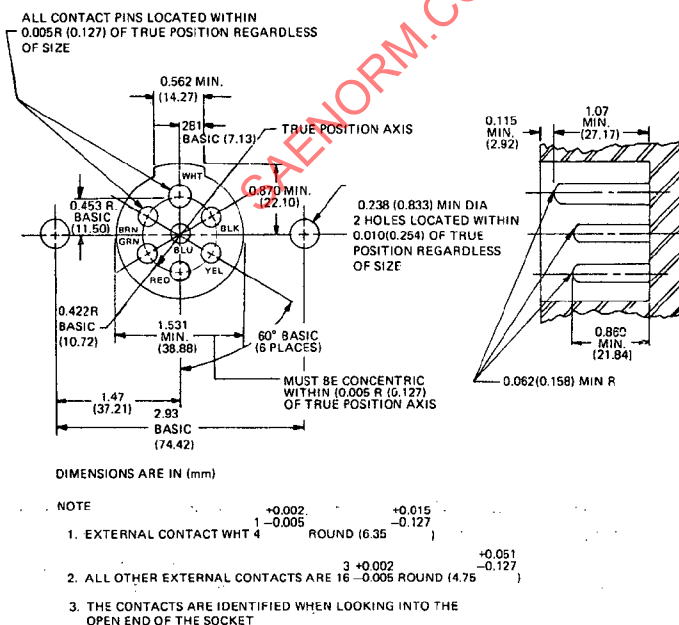

FIG. 2—RECEPTACLE SOCKET
3. Wiring Circuits—The function and color code of each circuit is shown in Table 1. The location of each circuit is shown in Figs. 2 and 3.
5. Receptacle Requirements—Fig. 2 shows receptacle socket dimensions and minimum design requirements. The receptacle shall be provided with a weathertight cover attached to the housing or connector socket, and provided with a latching device which shall make engagement with the back end of the index key on the cable plug. The receptacle cover shall be so constructed that it will latch properly without interference to a cable plug, regardless of the plug's length, when such a plug is properly engaged with the connector socket.